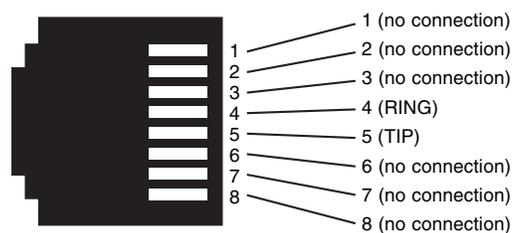
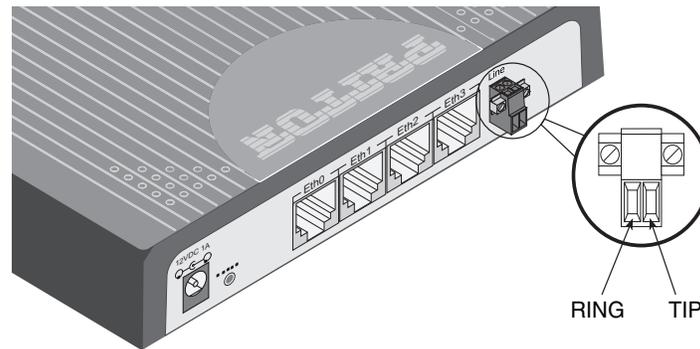

Figure 3. CL1214 (RJ-45) twisted pair line interface.
Figure 4. CL1214 (Terminal Block) twisted pair line interface
2. The CL1214 is equipped with an RJ-45 interface jack (figure 3) or terminal block (figure 4 on page 17) that can be used on the CopperLink interface. The CopperLink interface is a two-wire interface. Observe the signal/pin relationships on the CL1214's CopperLink interface jack.
The RJ-45 connector on the CL1214's twisted pair interface is polarity insensitive and is wired for a two-wire interface. The signal/pin relationship is shown in figure 3.